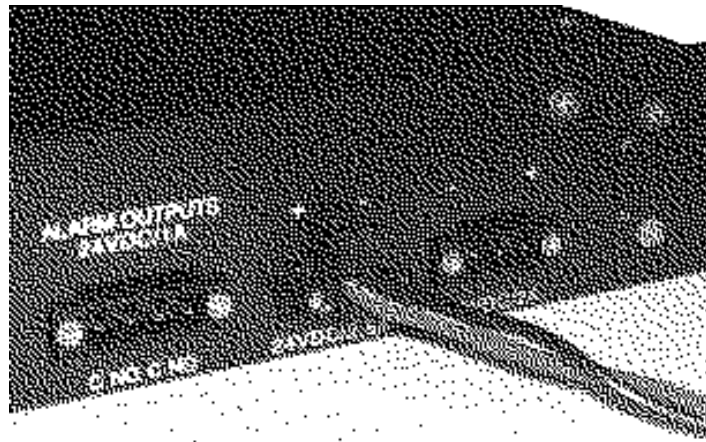

Figure 2-3.  $+24\text{ V}$  Power Installation.
3. Attach the power and return the wires to the connector as shown in Figure 2-3.